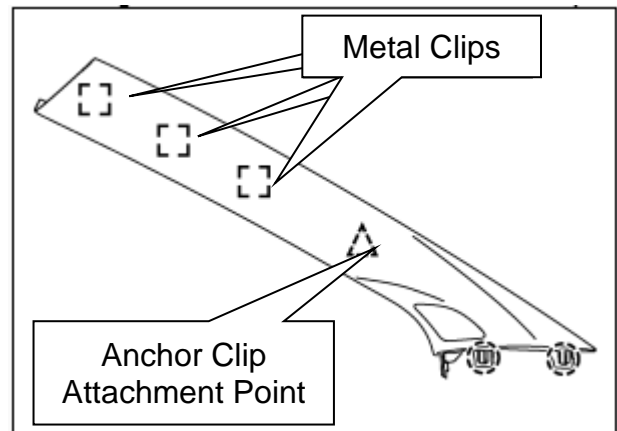
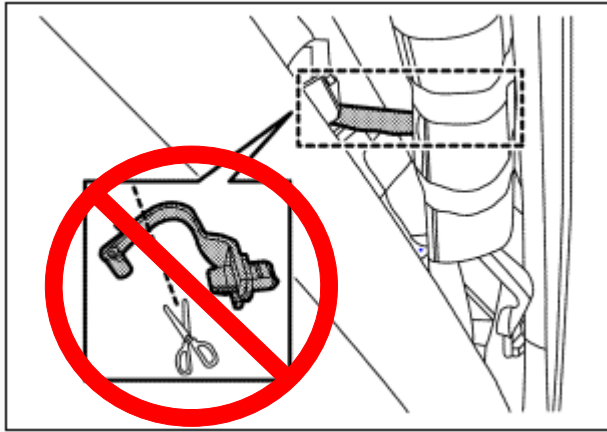

Figure 3
Figure 6
3. Unlatch the top of the front pillar garnish from the vehicle and let it hang down. Do not unlatch the base of the front pillar garnish. (Figures 3 and 4).
- Disengage top (3) front pillar garnish upper fixing metal clips
- **Do not cut or unlatch the blue anchor clip** from the front pillar garnish (See Figures 6 and 7 on next page)
Do not cut or disconnect blue anchor clip from front pillar garnish (Figures 6 & 7)